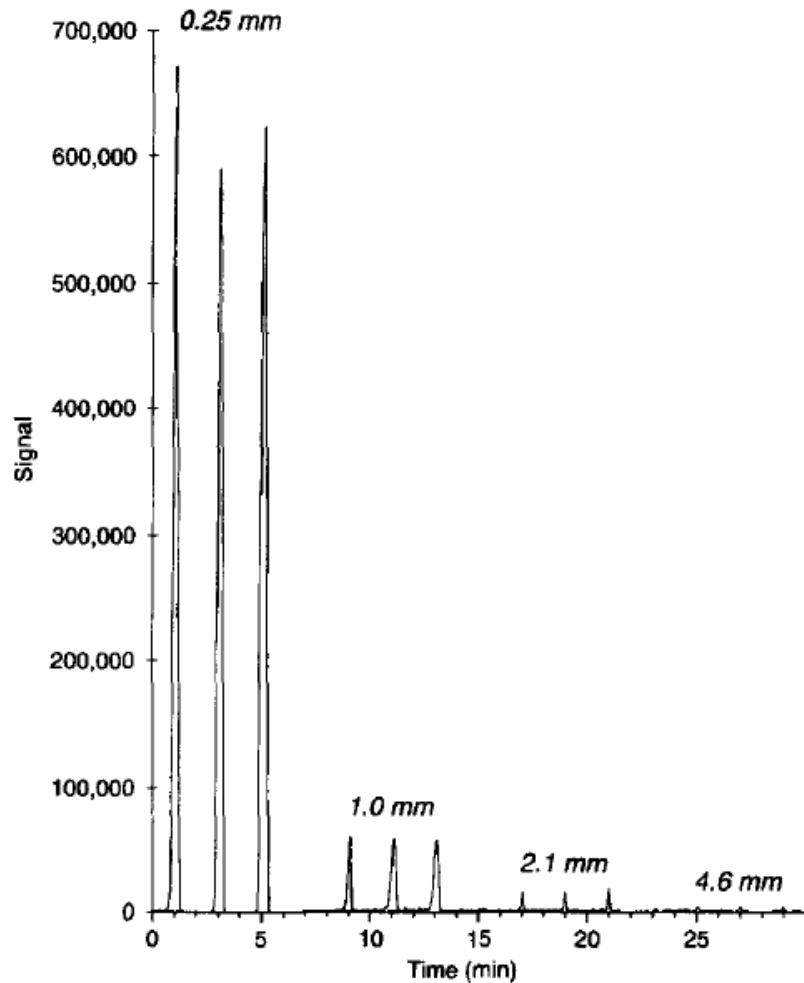

Fig. 2. TICs from methionine enkephalin injections (50 pmol each) on columns with different diameters.
Fig. 2. LC-UV traces of alkyl benzoate esters on three different column I.D.s: (A) 1 mm I.D., flow-rate = 65  $\mu\text{l}/\text{min}$ ; (B) 2.0 mm I.D., flow-rate = 210  $\mu\text{l}/\text{min}$ ; (C) 4.6 mm I.D., flow-rate = 1000  $\mu\text{l}/\text{min}$ . UV Detector with a 0.5- $\mu\text{l}$  cell, 254 nm, 5- $\mu\text{l}$  injection. Peaks: 1 = ethyl benzoate; 2 = propyl benzoate; 3 = butyl benzoate.
Fig. 2. FIA-ESI-MS/MS signal response of seven pesticides depending on the flow-rate of eluent (methanol-water=97:3, v/v); standard pesticide mixture:  $c = 100$  ng/ml. Top, peak area plotted versus flow-rate. Bottom, peak height plotted versus flow-rate.